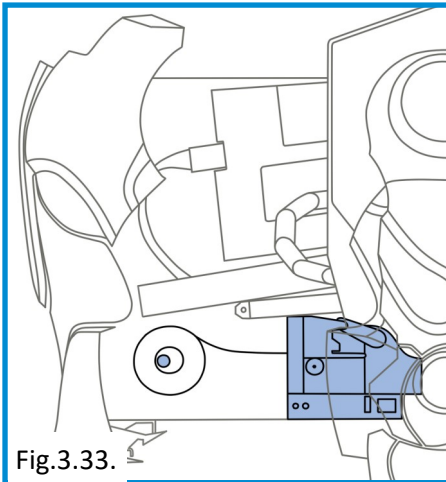

Fig.3.33.
- Slightly bend the clamps of the slicing unit and turn the block upwards (Fig.3.33).